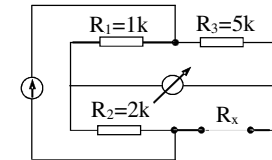

Fig. 10
7. For the bridge in Fig. 10 compute the resistance R_x when the bridge is balanced and the sensitivity S .